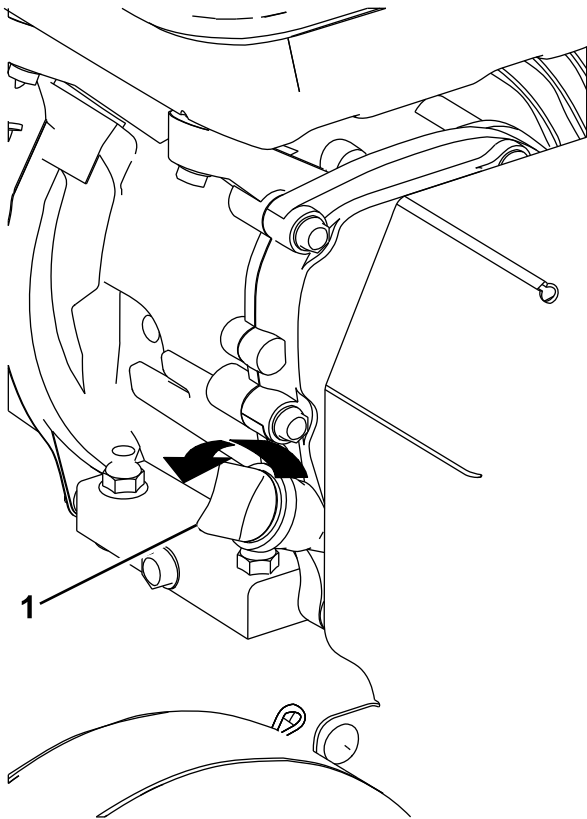

Figure 9
2. Clean around the dipstick to prevent dirt from falling into the filler hole, which causes damage to the engine (Figure 9).
3. Unscrew the dipstick and wipe the end clean (Figure 9).
4. Insert the dipstick fully onto the filler tube (Figure 9).